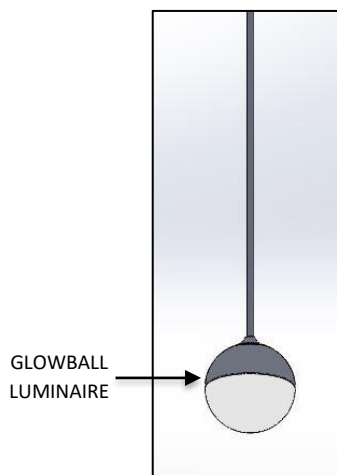

FIG.3 GLOWBALL LUMINAIRE
1. GLOWBALL LUMINAIRE (7 OR 14) with CORD attached. (Pre-assembled as shown in FIG. 3)